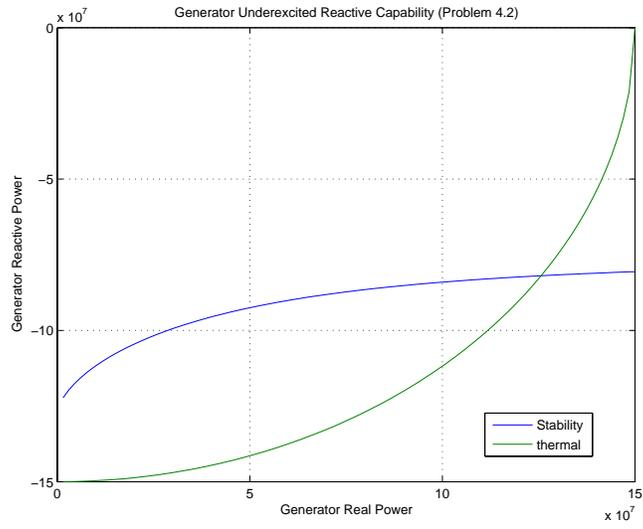
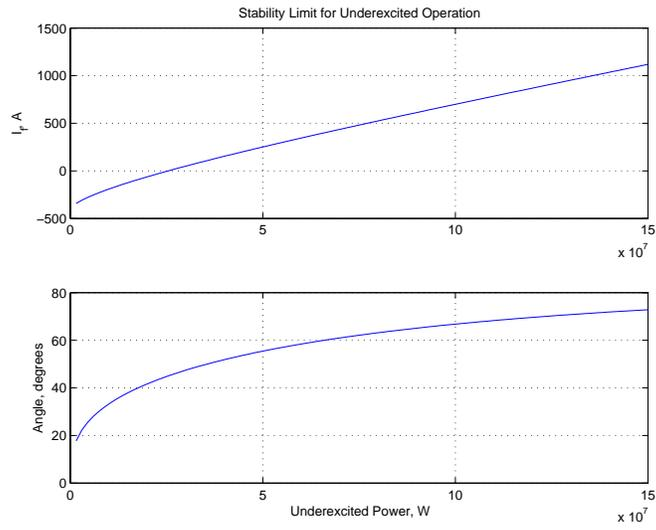

Figure 2: Reactive and Thermal Reactive Power Limit
Figure 3: Underexcited Stability Limit
2. Reactive power at the underexcited stability limit is plotted in Figure 2 Note also the values of field current and torque angle in Figure 3.